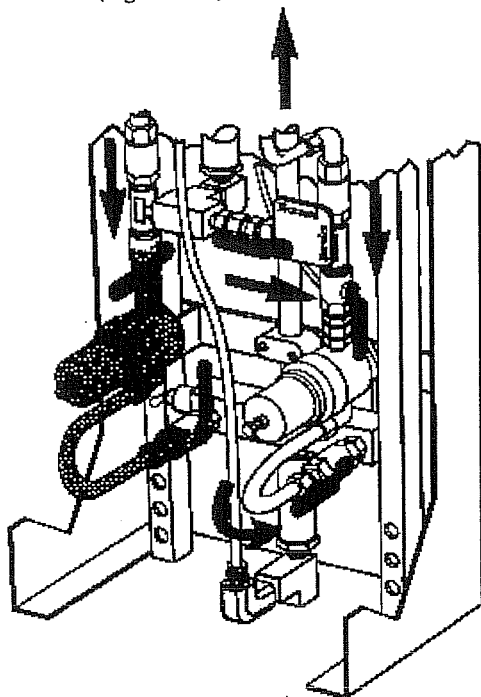

Figure 4-8
1. Close the upstream and downstream line regulator valves of the regulator to be serviced. (Figure 4-8)